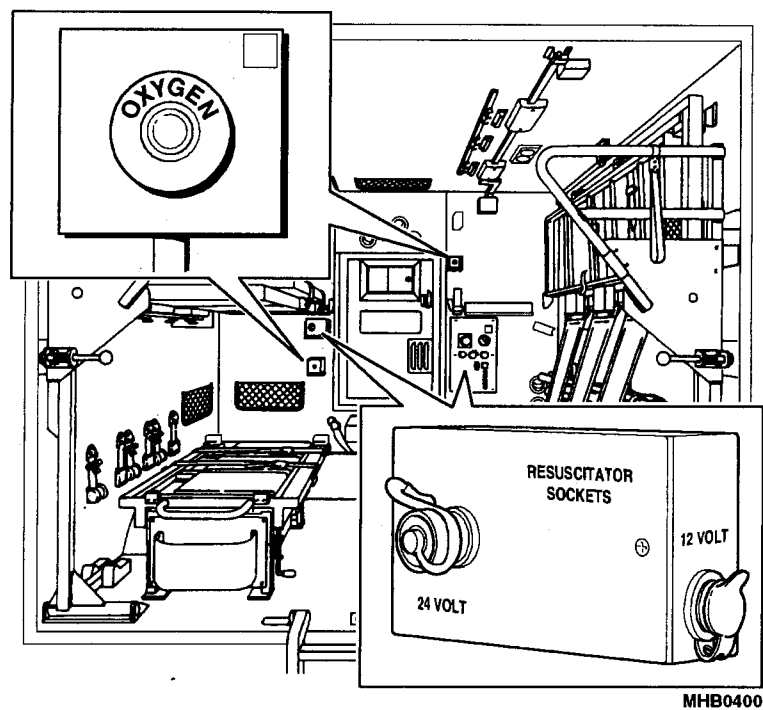

Fig 14 Oxygen and resuscitator sockets
25 There are two resuscitator socket outlets, one 12volt (Fig 14 (2)) and one 24 volt (6) incorporated into the panel.
28 There are two oxygen outlets (Fig 14), one on either side of the walk-through door on the rear bulkhead. These are connected to the oxygen bottles stowed on the floor beneath the lower stretcher carriers. To operate:
29 As well as the two resuscitator sockets (Fig 14) on the distribution panel there are two more located on the left-hand side of the walk-through door, mounted on a box. These are a 24 volt socket and a 12 volt socket.